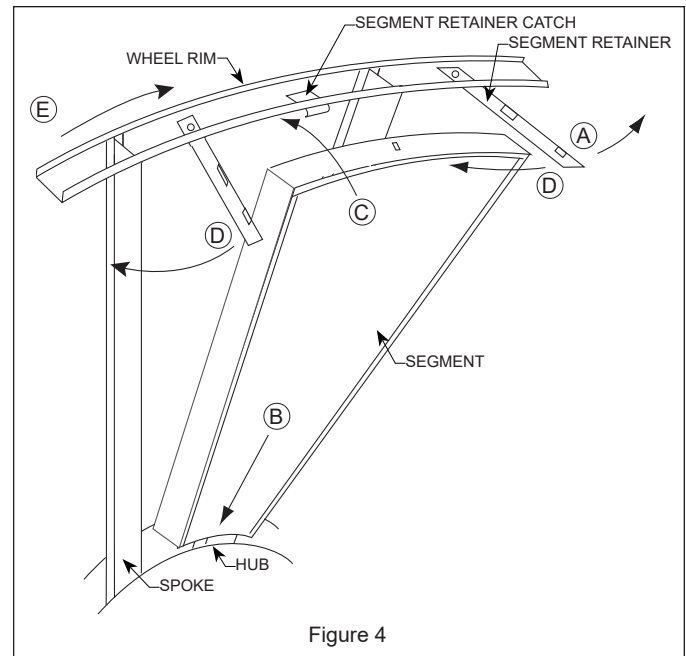

Figure 4
4. To install wheel segments follow steps A through E. **See Figure 4.** Reverse procedure for segment removal.